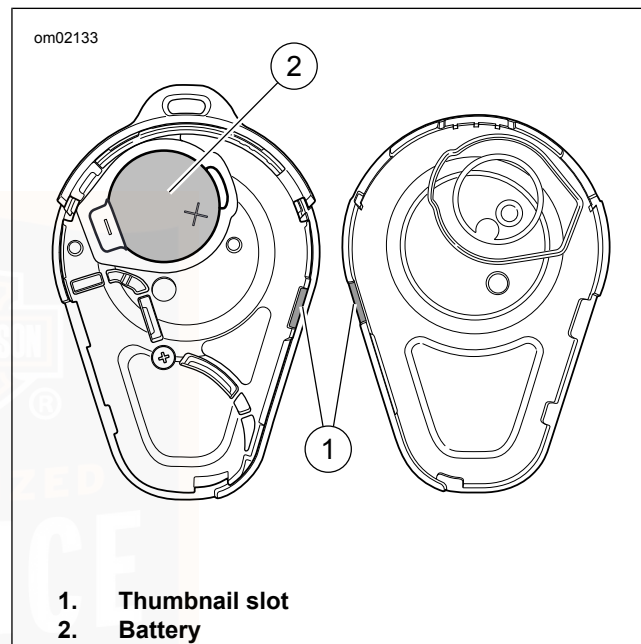

Figure 5. Fob Battery
1. See Figure 5. Slowly turn a thin blade in the thumbnail slot (1) on the side of the fob to separate the two halves.
2. Remove the battery (2) and discard.
- a. Push the latch (3) away from the battery.